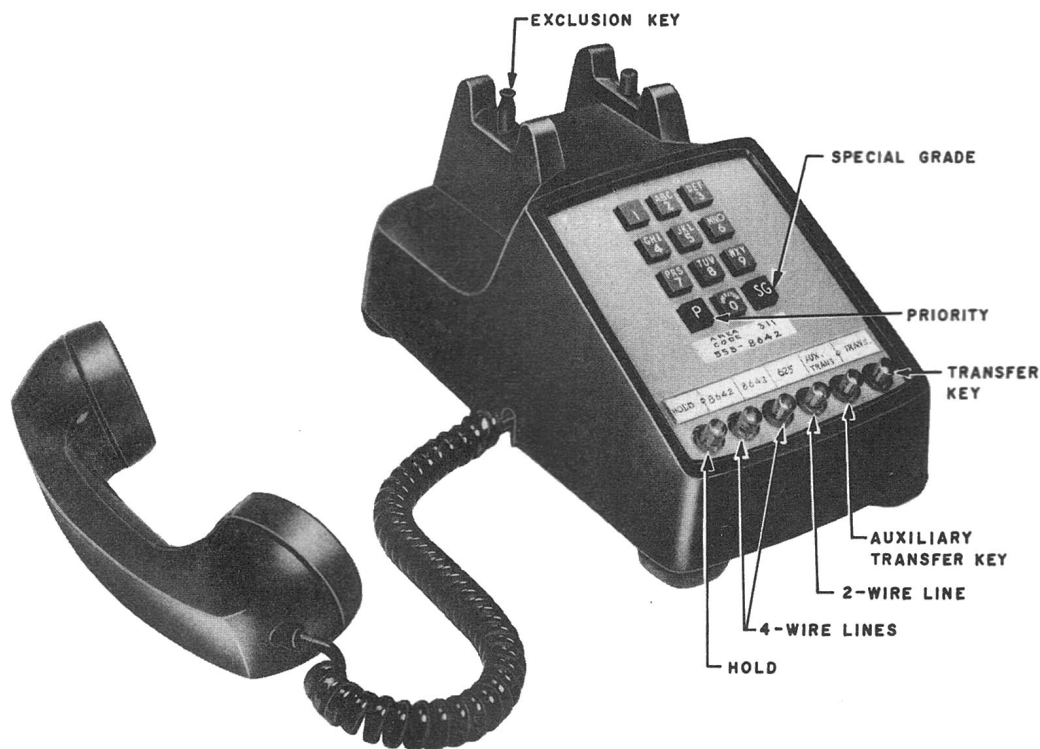

Fig. 2 — 568HT Telephone Set with Typical Arrangement of Pickup and Signaling Keys
4.02 These sets are equipped, internally, with a relay which permits switching from 2-wire to 4-wire circuitry. The 6-button sets are also equipped with an exclusion key. In addition the 568HT (Fig. 2) and the 616-type sets are equipped with two additional buttons, colored red, designated P (priority) and SG (special grade) as part of the dial.